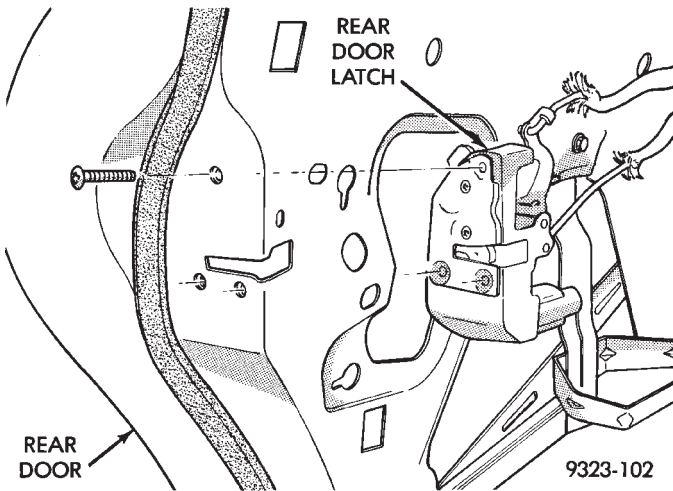

Fig. 44 Rear Door Latch
- (4) Disconnect lock cylinder link from door latch.
- (5) Disconnect outside door handle link from door latch.
- (6) Remove screws holding door latch to door end frame (Fig. 44).
- (7) Separate latch from door.